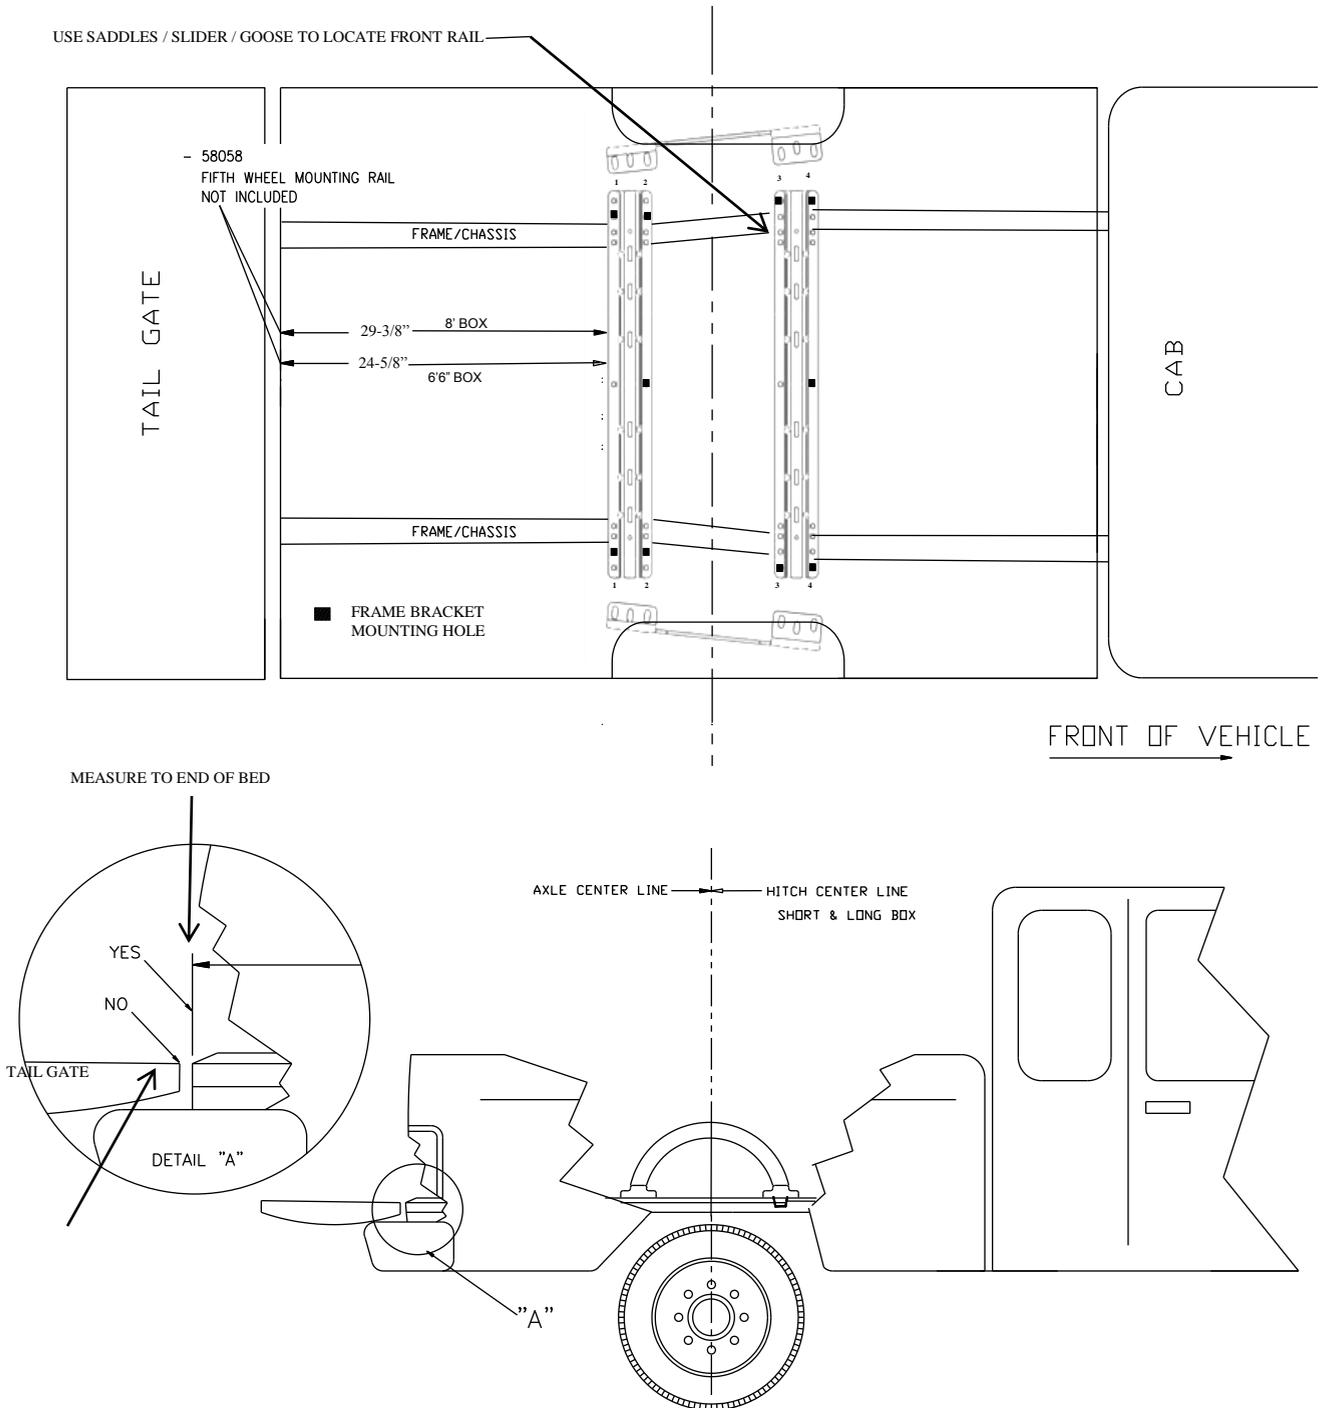

Figure 2
5. Place one mounting rail in the bed of the vehicle. Center the rail on the floor of the truck bed and use your tape measure to locate the proper distance from the rail to the rear edge of the truck box as illustrated on page 2, Figure 2.
6. Use a center punch to mark the holes in the rail per the illustration. Use the second hole from the outside as shown in Figure 2. Move the rail out of the way and drill each position with a 1/8" drill bit.
12. Use a center punch to mark the holes in the front rail as per the illustration. Use the outside holes as shown in Figure 2. Move the rail out of the way and drill each position with a 1/8" drill bit. Check that the 1/8" drilled holes align with the slots in the frame brackets. If not, re-position the 1/8" holes.